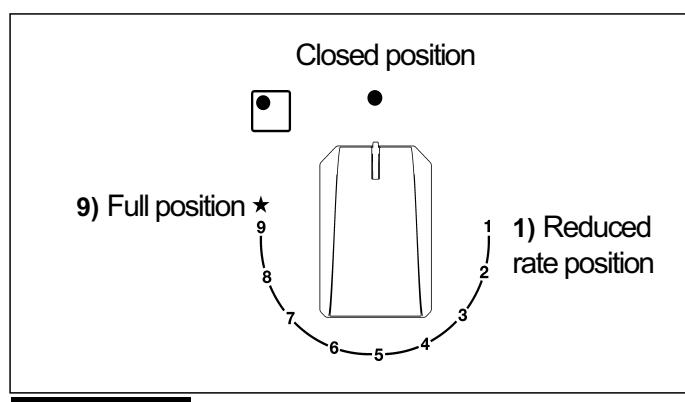

FIG. 1
Push and turn the knob corresponding to the required burner in an anticlockwise direction until it reaches the full on position of full  (position 9 fig. 1), then depress the knob, the tap is equipped with a scale of 9 positions, with each click the flame is reduced until you reach the position of 1, ie the minimum supply of gas.
The knobs of burners equipped with flame failure device must be turned in an anticlockwise direction until they reach the full on position (Position 9, fig.1) and come to a stop. Now depress the knob in question and repeat the previously indicated operations.
- When the pan comes to the boil, set the knob to the reduced rate position (Position 1, fig. 1).
- **burners with flame failure device may only be ignited when the relative knob has been set to the Full on position (Position 9, fig. 1).**